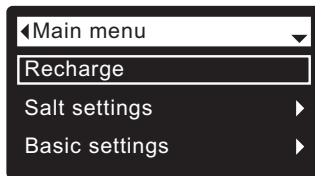

FIG. 33
During normal operation (status screens rolling), press the conditioner/refiner’s SELECT (O) button to display the Main menu (See Figure 33). This menu and its subsidiary screens are used to control these operations: